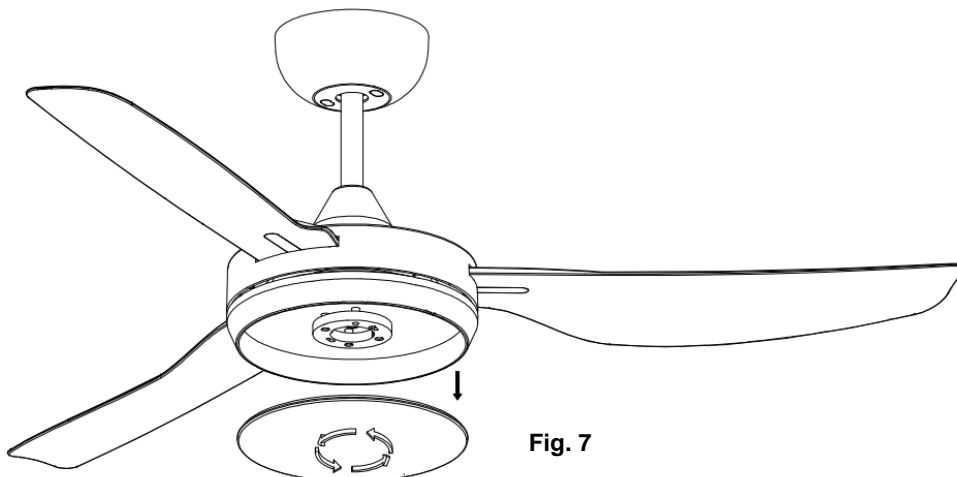

Fig. 7
- If lamp (Not included) is required, remove the bottom cover from the fan assembly by turning counterclockwise.(Fig.7)